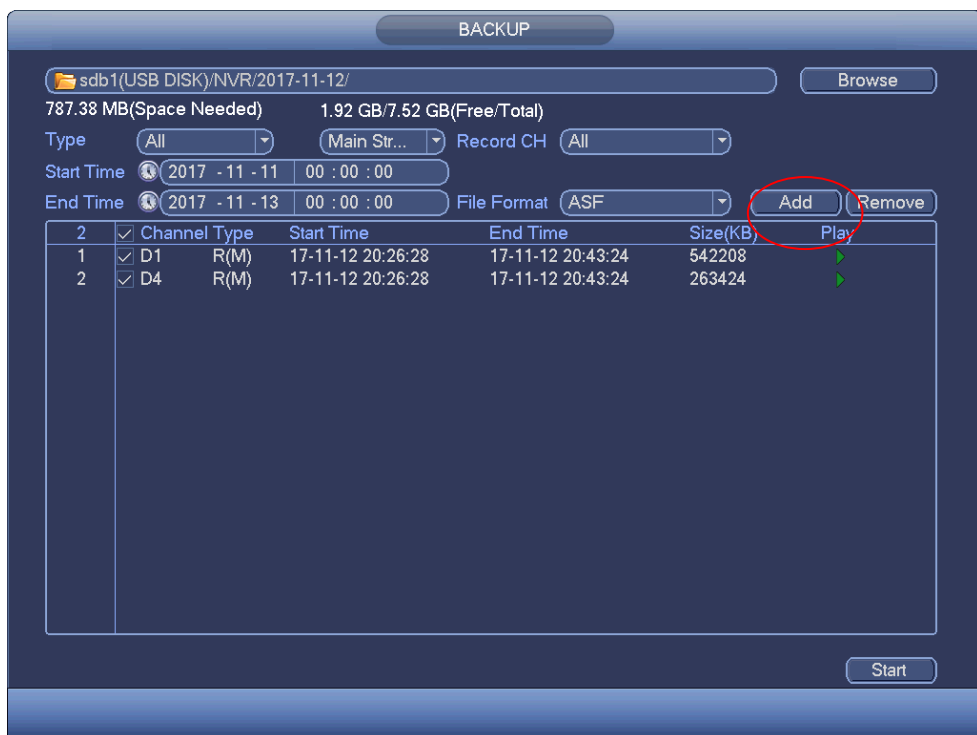

Figure 4-125
- d) Click add button, system begins search. All matched files are listed below. System automatically calculates the capacity needed and remained. See Figure 4-125.